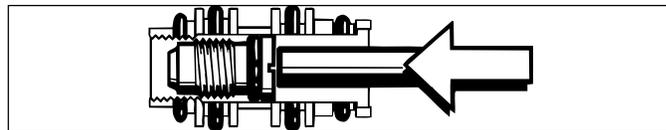

Figure 22
1.3.29 Install the O-ring(3) onto the crown(4), and carefully insert the threaded end of the crown into the larger, unthreaded end of the crown housing. Gently press it in further with the blunt end of the seal/seat extractor (P/N 5116236) until it stops (see Fig. 22.)